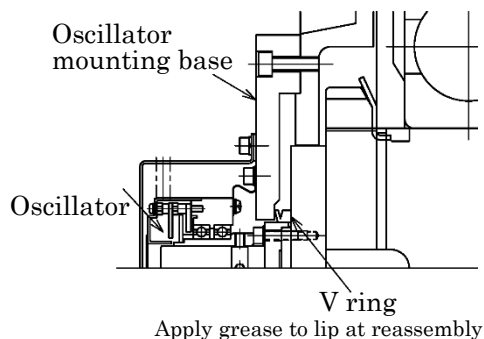

Fig.14 Position of V ring at non-load side
- (5) Loosen about 3 turns the 2 setscrews fixing the pulse oscillator rotor to the motor shaft and remove pulse oscillator. (Do not take off the setscrews.) However, an adhesive (TB1342H) is used to prevent the set screws from loosening. Before removing the set screws forcibly, warm them up to about 100°C using a thin soldering iron and then remove them.
- (6) Remove the fixing screws of the pulse oscillator mount, and remove that mount. When the mount is removed, mark the matchmarks. (For EDM13~EDM31, it is unnecessary to remove the pulse oscillator mount.)
- (7) Remove the V-ring. Refer to Fig. 14 for motors with encoder only (EDM3551V and EDM3561V, EDM43 to EDM68), and motors with encoder and electromagnetic brake. At that time refer to Table 6 for the V-ring type on the non-load side.